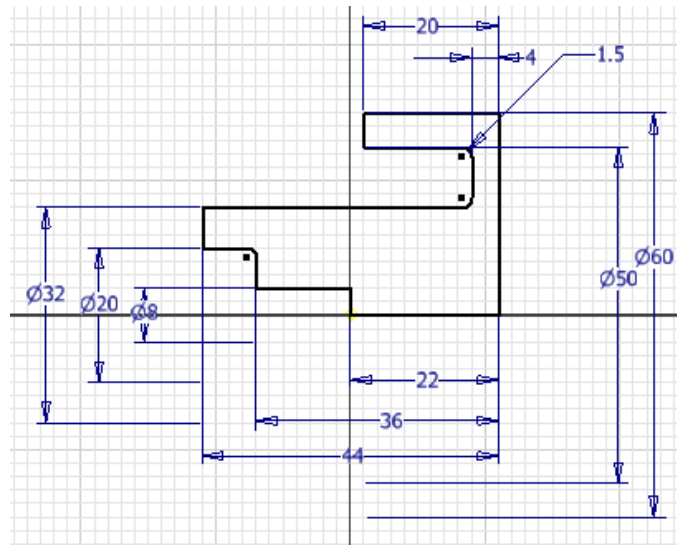

Figure 3-56 Fully Dimensioned sketch after adding fillets
2. Similarly, select lines 4 and 5 as well as lines 7 and 8 to add fillets between these lines. Exit the **2D Fillet** dialog box. The final sketch after adding fillets is shown in Figure 3-56.